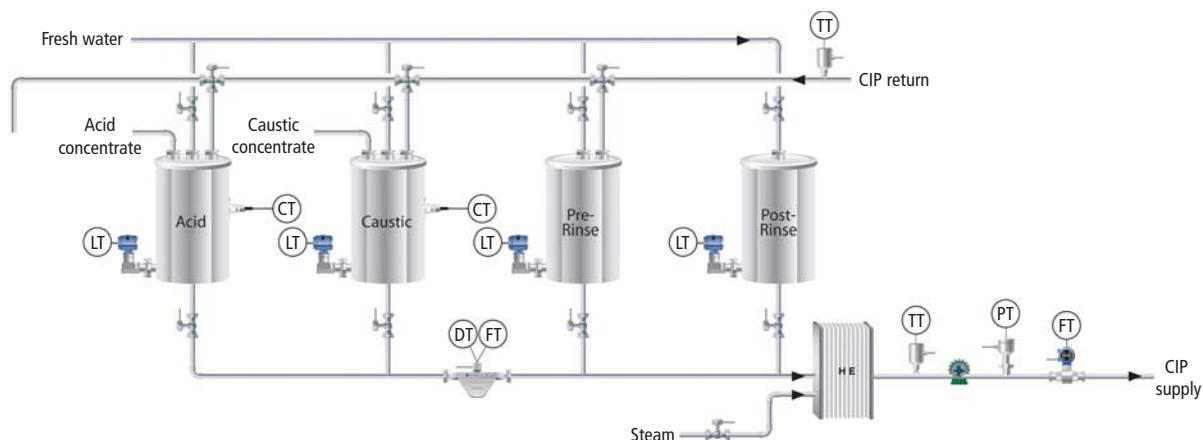
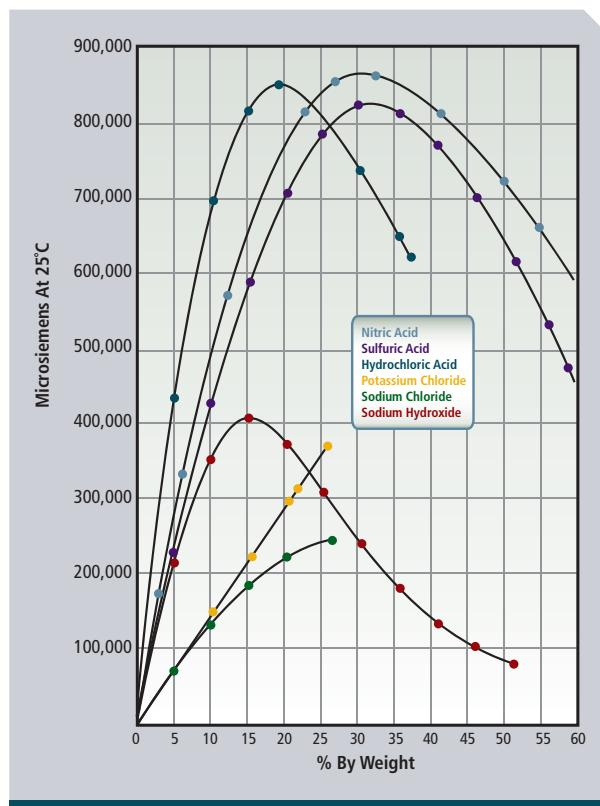

Figure 1: CIP equipment/process configuration.
Figure 2: Concentration vs. conductance of NAOH (sodium hydroxide) and other chemicals.
- **CIP acid and caustic detergent concentration** — To provide detergent of the proper concentration for each CIP circuit and to validate that cleaning was done at the proper detergent strength, conductivity measurement is applied to the returning acid and caustic. These conductivity measurements are proportional to the concentration or solution strength (see Figure 2, next page) and are recorded by control systems for validation. The fluids are often partially neutralized during the CIP process, and additional concentrate dosing is required. Conductivity indicates when sufficient concentrate has been added to the appropriate tanks. Figure 1 (below) shows a typical configuration.